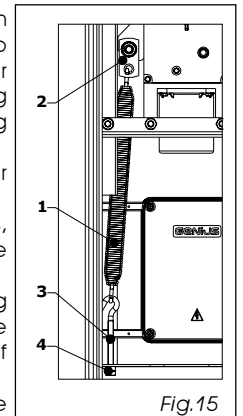

Fig.15
The automated system requires a balancing spring, fig.15 ref.1, which must be ordered separately (like the beam). The type of spring to be fitted must be selected according to the length of the beam and of any installed accessories (see chap.8), selecting the spring from among those in the price list.
- remove the tie-rod, fig 15 ref.3.
- while keeping the beam always in vertical position, connect the spring to the plate, fig.15 ref.2. For quicker installation, we recommend keeping the open part of the eyelet facing toward the installer.
- fit the tie-rod, fig. 15 ref.3, into the lower eyelet and in its securing hole.
- tighten one of the two nuts, fig. 15 ref.4, until you recover all backlash on the spring.